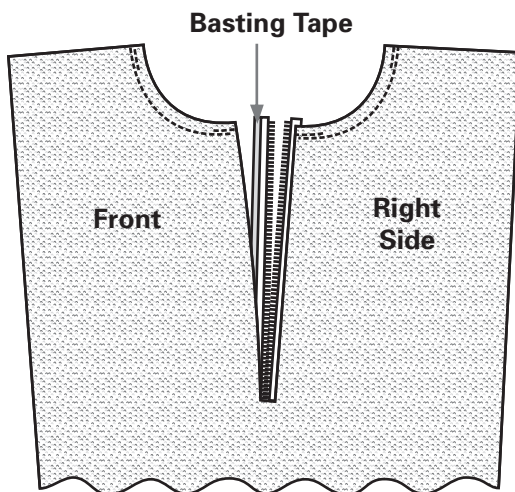

Fig. 4-6
6. Open the zipper and turn the sewn edge to the wrong side of the opening. (Fig. 4-6)